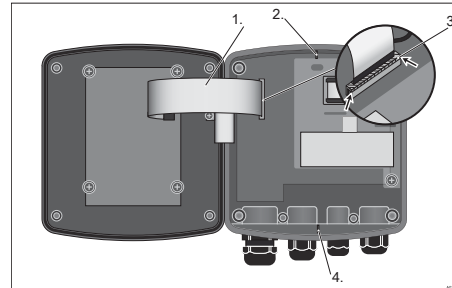

Fig. 39: Loosening the ribbon cable
The base of the ribbon cable is firmly soldered onto the PCB. The base cannot be removed. Open the base lock (3) to loosen the ribbon cable, see Fig. 39